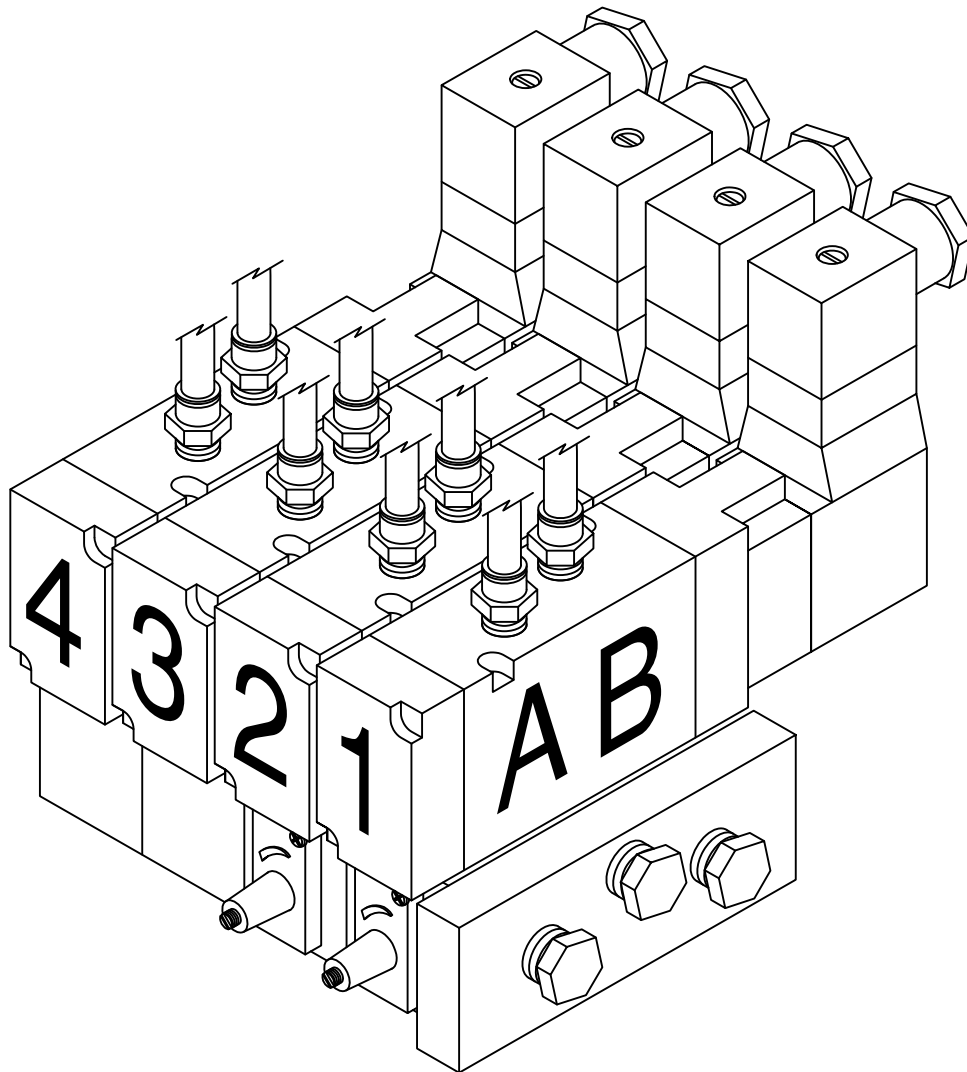

FIGURE 19
REFER TO FIGURE 19 BELOW.
- C. Loose connections in the air lines. All of the air lines on this machine are the snap in connector type. To remove the hose, push in on the slide connector while pulling out on the hose. To reconnect the hose, simply push the hose into the connector as far as it will go. If there are any questions about where the hoses connect, REFER TO FIGURE 19 ON THE PRECEDING PAGE.**